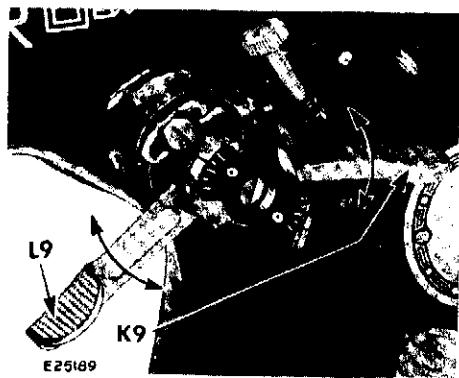

Fig. 216
**SETTINGS:** Bight control lever **K9** and position lever **L9 at any position between highest and lowest point** as shown in Fig. 216.